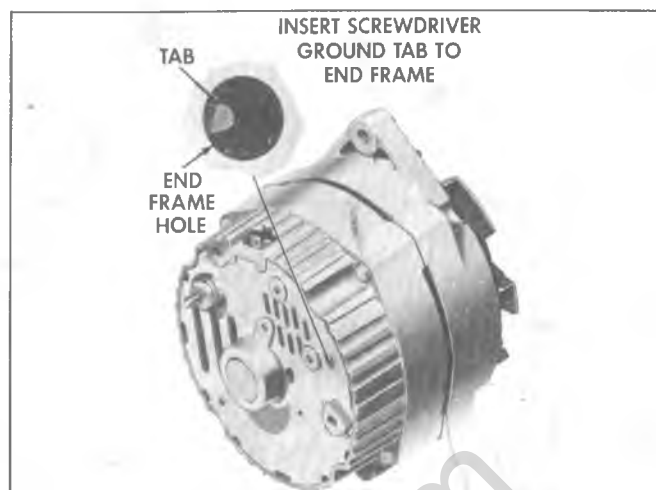

Fig. 6D-6C--Generator Test Hole
g. If ampere output is not within 10 percent of rated output, determine if test hole is accessible (Fig. 6D-6C). If accessible go to step h. If not accessible go to step l.
h. Ground the field winding by inserting a screwdriver into the test hole (Fig. 6D-6C).